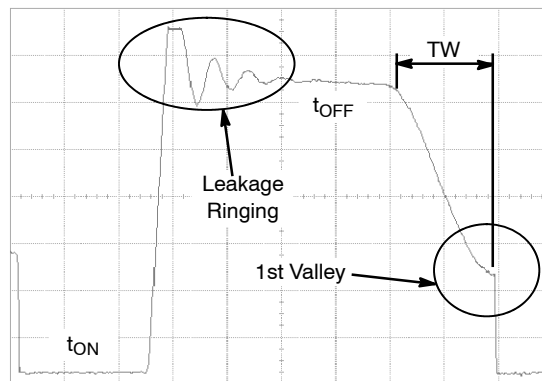
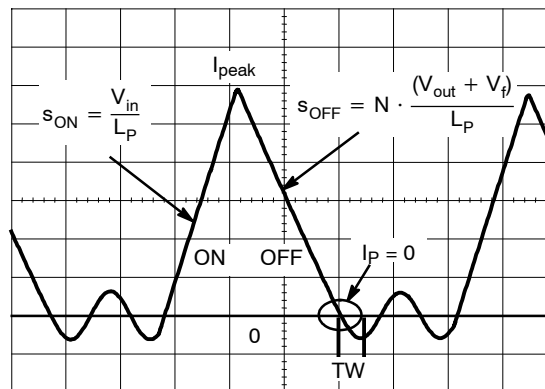

Figure 7. Typical Quasi-Resonance Waveform
Figure 8. Magnetizing Inductance Current Waveforms
Quasi-Resonance (QR) implies that the controller permanently monitors the transformer core flux activity and ensures Borderline Conduction Mode (BCM) operation. That is to say, when the switch closes, the current ramps up in the magnetizing inductance L_P until it reaches a setpoint imposed by the feedback loop. At this point, the power switch opens and the energy transfers from the primary side to the secondary (isolated) portion. The secondary diode is now biased and the output voltage “flies back” to the primary side, now demagnetizing the primary inductance L_P . When this current reaches zero, the transformer core is said to be “reset” ($\varphi = 0$). At this time, we can turn the MOSFET on again to create a new cycle. Figure 7 and 8 portray the typical waveforms with their associated captions. If a delay TW is introduced further to the core reset detection and before biasing the power MOSFET, the drain signal $V_{ds}(t)$ has the time to go through a minimum, also called valley. Therefore, when we will finally reactivate the power MOSFET, its drain-to-source voltage will be minimum, reducing capacitive losses but also its gate-charge value, since the Miller effect gets diminished at low V_{ds} .
The D flip-flop output is high, the MOSFET is enhanced and current grows-up in the primary winding. This is the *on* portion of Figure 8, left side of the triangle. When the driver output went high, its rising edge triggered a 8 μs timer. This 8 μs timer provides a true frequency clamp by driving the D-input of the flip-flop. Now, when the peak current reaches the level imposed by the feedback loop, a reset occurs and the flip-flop output comes low.
As one can see from Figure 7, a parasitic ringing takes place at the switch opening: this is the leakage inductance contribution. Unfortunately, this leakage can be detected as a core reset event if no precaution is taken. This explains the presence of the 3 μ s blanking timer that prevents any restart before the completion of this circuit. After leakage, the voltage applied over the primary winding is an image of the output voltage: this is the flyback level, or plateau level, equal to $N(V_{out} + V_f)$, with N the turn ratio between the primary and the secondary, V_{out} the output voltage and V_f the secondary diode forward drop. We are on the right portion of Figure 8, OFF portion, the secondary current ramping down. If we now observe the voltage on the auxiliary winding, we will see something like what Figure 10 shows where the plateau lasts until the core is reset. At this reset event, a natural ringing takes place whose amplitude depends on the ratio N and V_{out} . A comparator observes this activity and detects when the voltage drops below ground, actually below 45 mV typically. In Figure 9, one can see the ESD protection arrangement which introduces a small capacitive component to Pin 3 input. This capacitive component associated with the demagnetization resistor can thus realize the necessary above TW delay.
Therefore, we can see that for various switching frequency values (dependent on the input condition if the output demand is fixed), the converter will permanently adjust the peak current I_p to keep the output power constant. By manipulating the slope definitions S_{ON} and S_{OFF} (see Figure 8), we can show that the peak current is defined by: